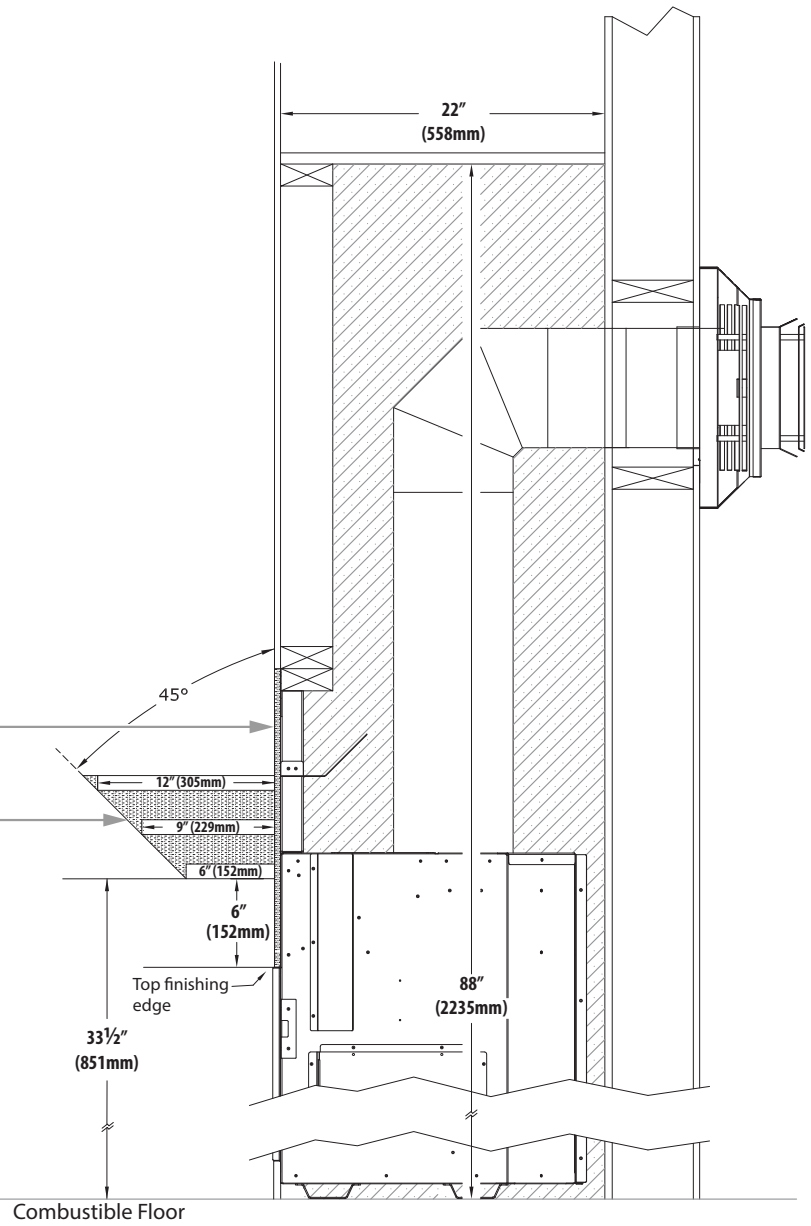

Figure 4.2, Standard Installation Non-combustible Mantel Clearances
- **Non-combustible Mantel Projections:** A minimum vertical clearance of 6" (152mm) above the top finishing edge to a maximum 6" (152mm) depth of a non-combustible mantel. Follow projection 1" (25mm) up for every 1" (25mm) deeper. See Figure 4.2 on page 31.